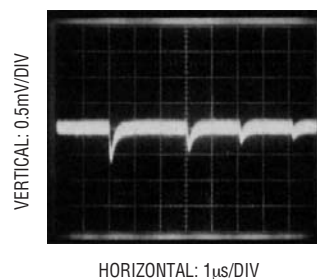

Figure 15. Adequate Reference Settling
2. Transients on the reference inputs caused by the capacitive switching currents must settle completely during each bit test (each 4 ACLK cycles). Figures 15 and 16 show examples of both adequate and poor settling. Using a slower ACLK will allow more time for the reference to settle. However, even at the maximum ACLK rate of 2MHz most references and op amps can be made to settle within the $2\mu\text{s}$ bit time.